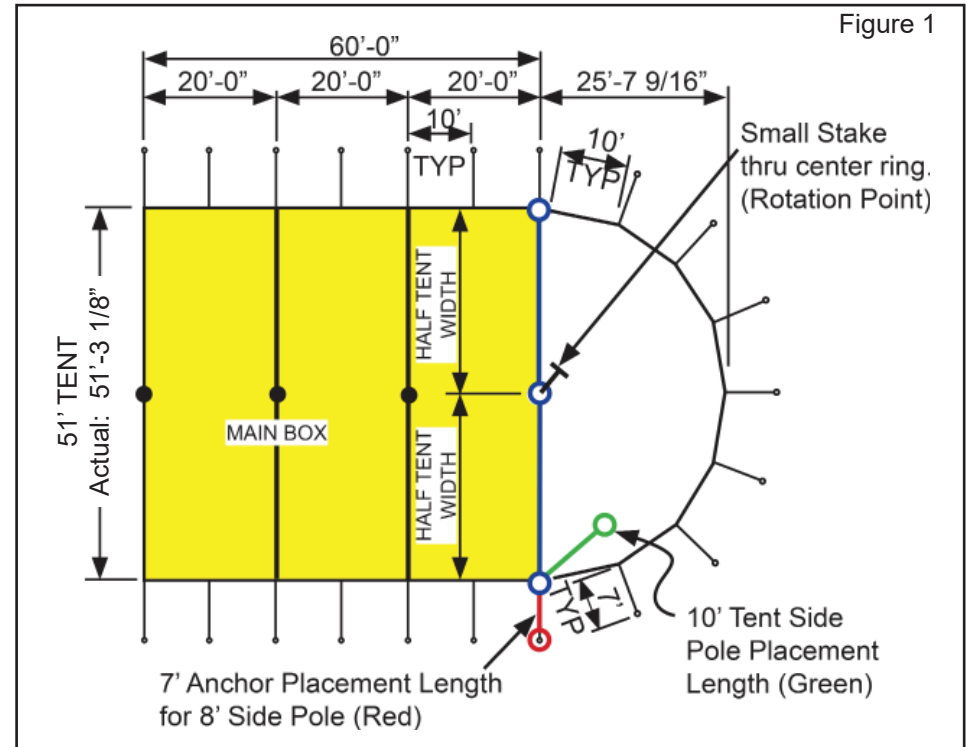

Figure 1
3. Start marking for the round end by aligning the cable at one end of the MAIN BOX. See Figure 1. Place the small stake in the ground at the Center Ring (center pole location). This will serve as a rotation point.